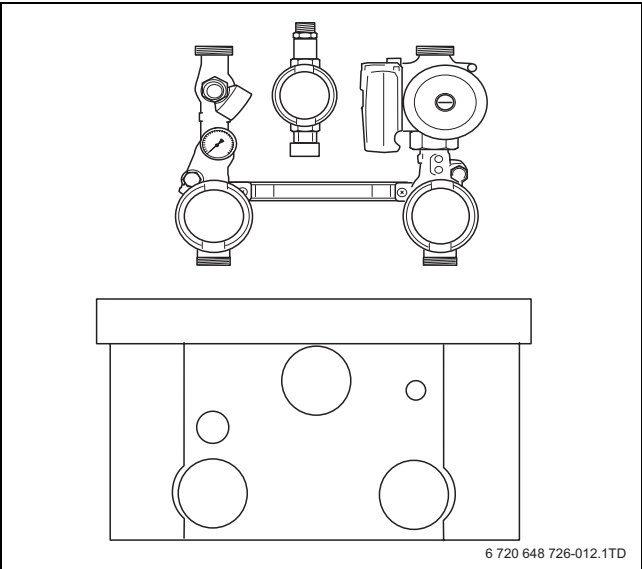

Fig. 12 Pump group (accessory)
- using a pump group (→ fig. 12)